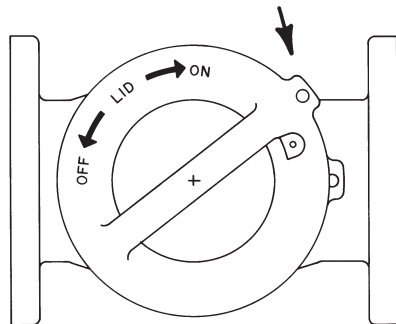

FIGURE 2
2. Reinstall the lid with the tab of the lid just to the left of the boss with the threaded hole on the body (See fig. 2).